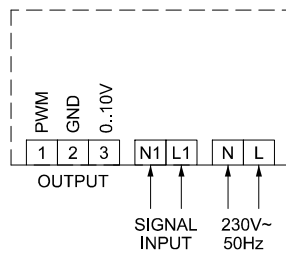
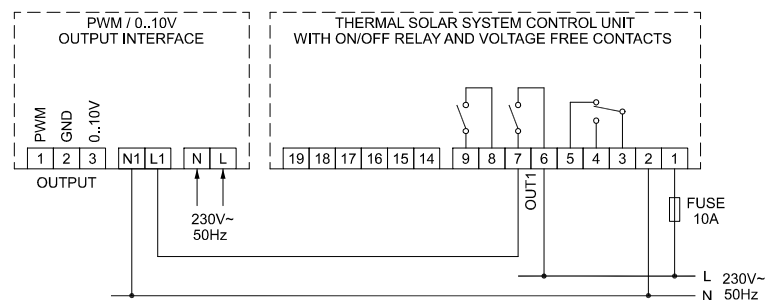
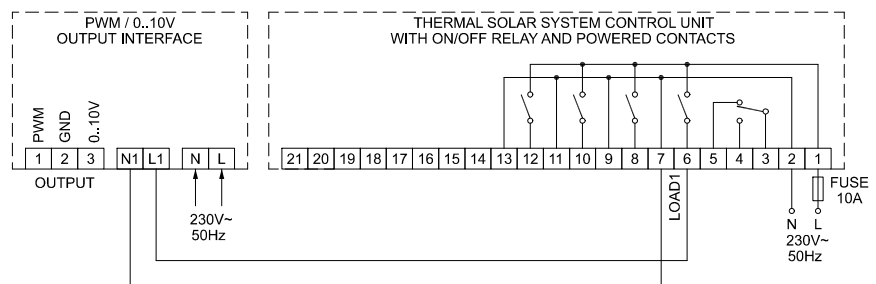

Fig. 7
Fig. 8
Fig. 9
- 6 Make the electrical connections according to the wiring diagram of Fig. 7 and the examples of Fig. 8, Fig. 9 and Fig. 10.